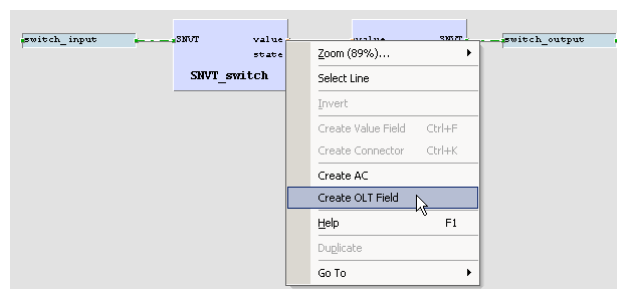

Figure 28: Create online test fields
- For later debugging, it is good practice to add online test fields to the drawing, to display the current value of the signals during online test. To do this, right-click on the value output of the left function block and select **Create OLT Field** from the context menu, as shown in Figure 28.